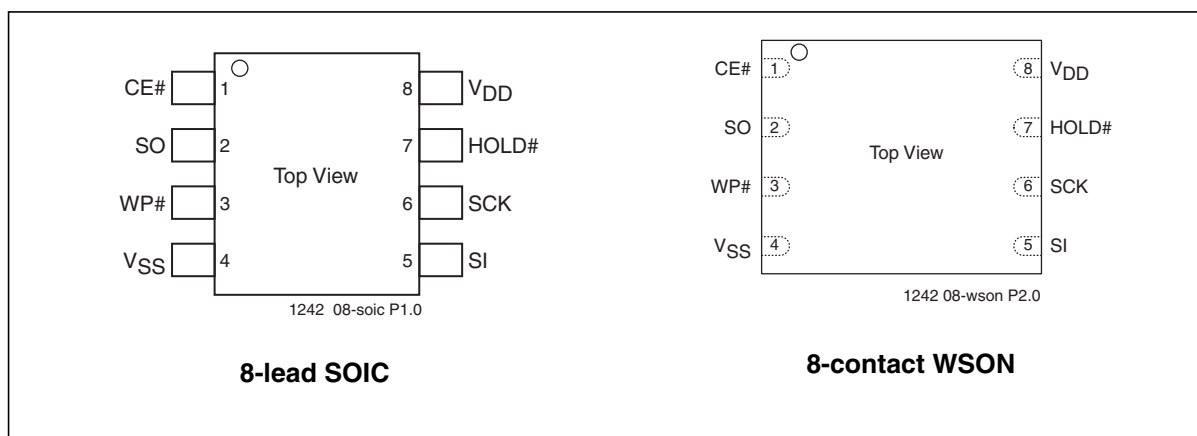

Figure 2: Pin Assignments
The SST25LF020A devices are offered in an 8-lead SOIC 150 mil body width (SA) package, and in an 8-contact WSON package. See Figure 2 for the pin assignments.